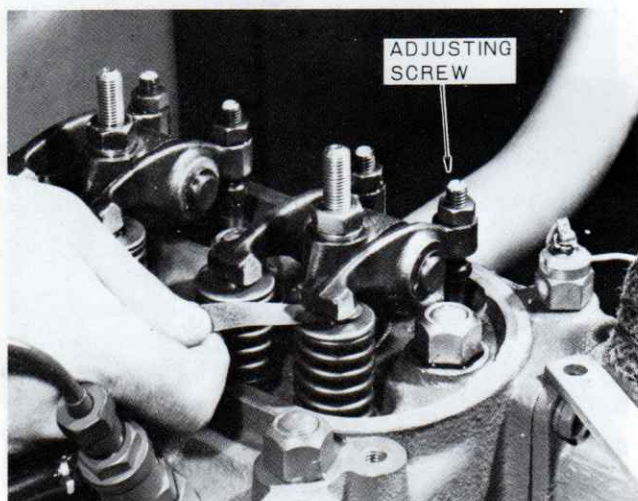

Figure 48 — Checking Valve Clearance
2. With the engine idling, check the clearance of each valve with a step-type feeler gauge, Figure 48.